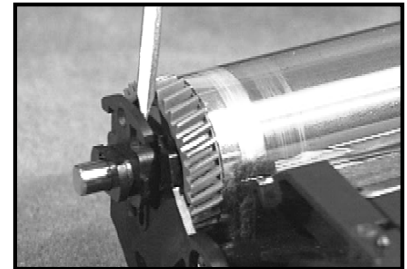
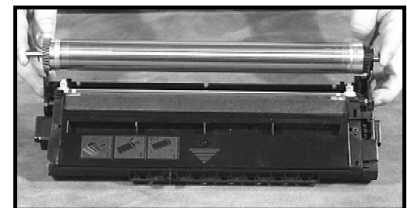

Figure 7
Figure 8
5. To remove the OPC, pry the two spacers off of the metal axle rod (fig 7). Then grasp the drum axle and gently lift the OPC from the toner hopper (fig. 8).